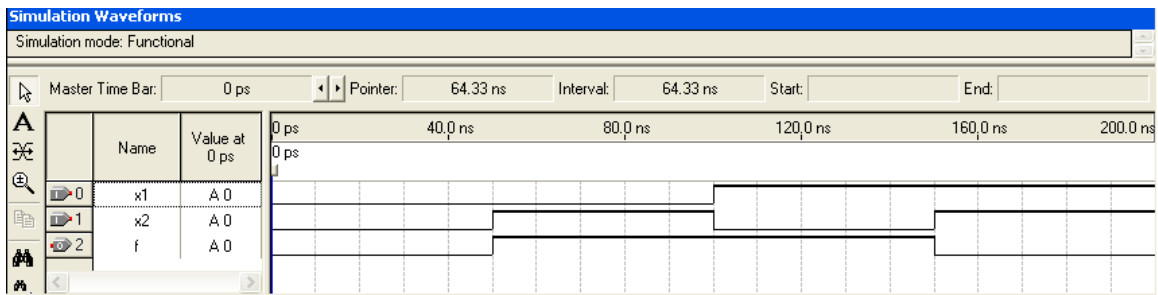

Figure 13. The result of functional simulation.
5. A simulation run is started by **Processing > Start Simulation**. At the end of the simulation, Quartus II software indicates its successful completion and displays a Simulation Report illustrated in Figure 13. If your report window does not show the entire simulation time range, click on the report window to select it and choose **View > Fit in Window**.
6. Observe that the output f is as specified in the truth table of Figure 13.